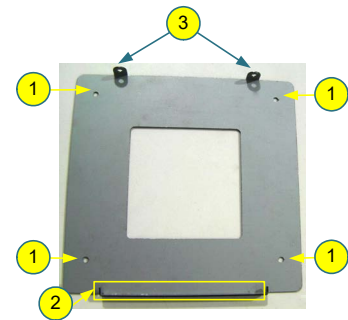

Figure 5-16: Control Module's Mounting Bracket
Step 1. Set up the skids with spacing that matches the spacing measurements for the holes in the **Control Module's** mounting bracket (1). Refer to **Figure 5-16** above.
Step 2. Position the **Control Module's** mounting bracket so that its four holes (1) fit over corresponding holes on the skids.
Step 6. To mount the **Control Module**, place it onto its mounting bracket so that its groove at the bottom (2) rests on the lip at the bottom of its mounting bracket (2).
Step 7. Press the **Control Module** back onto the mounting bracket such that the top of the **Control Module** fits under the mounting bracket's tabs (3) at the top. The screw holes (3) on the top of the **Control Module** should line up with the mounting brackets tabs (3).